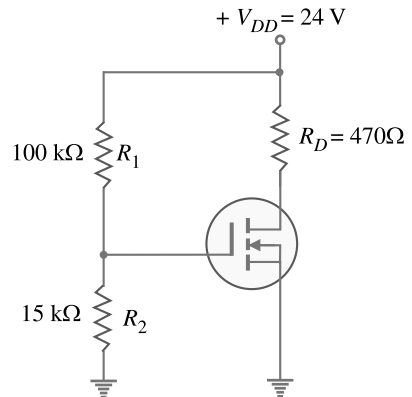

Fig. 17.70
**Example 17.39.** Determine  $V_{GS}$  and  $V_{DS}$  for the  $E$ -MOSFET circuit in Fig. 17.70. The data sheet for this particular MOSFET gives  $I_{D(on)} = 500 \text{ mA}$  at  $V_{GS} = 10\text{V}$  and  $V_{GS(th)} = 1\text{V}$ .
**Solution.** Referring to the circuit shown in Fig. 17.70, we have,